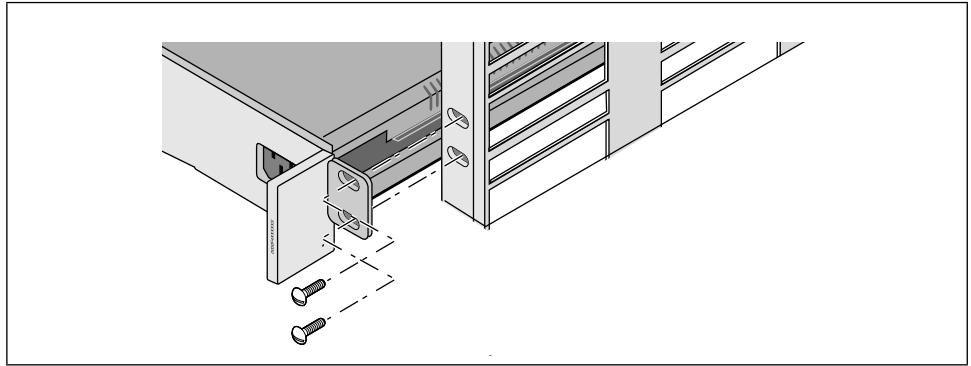

Figure 5: *TurboStack* - Mounting the AT-TS90TR
6. Lift the handles, as shown in Figure 5, and firmly secure the unit to the *TurboStack* chassis with the supplied mounting hardware.